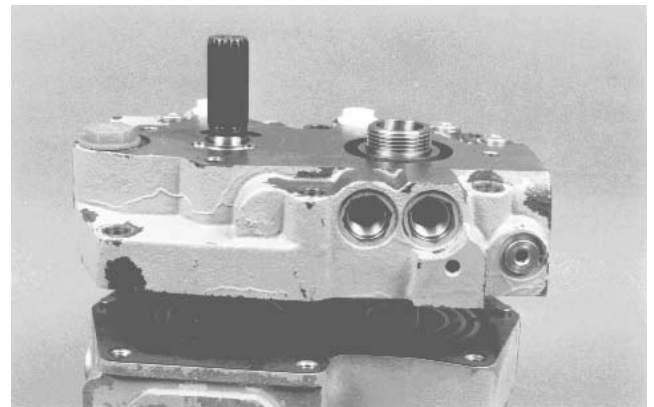

Figure 40
3. Remove center section from housing (Fig. 40).
4. Remove gasket and two (2) alignment pins from housing.